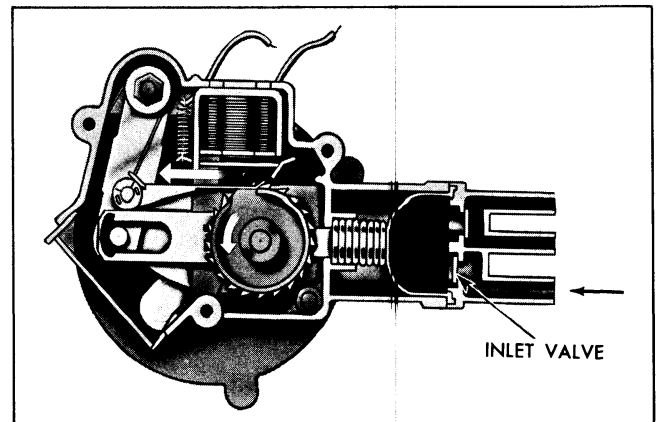

Fig. 11-113 Suction Stroke
the rotor cam is turned each lobe (4) actuates the lever arm which in turn pulls the plunger arm back compressing the spring. While the plunger arm is being pulled back (suction stroke) water is drawn in through the inlet valve (Fig. 11-113). As the high point of each lobe is passed, the plunger arm spring pulls the plunger arm toward the bellows. This collapses the bellows and forces water out through the outlet valve (exhaust stroke).